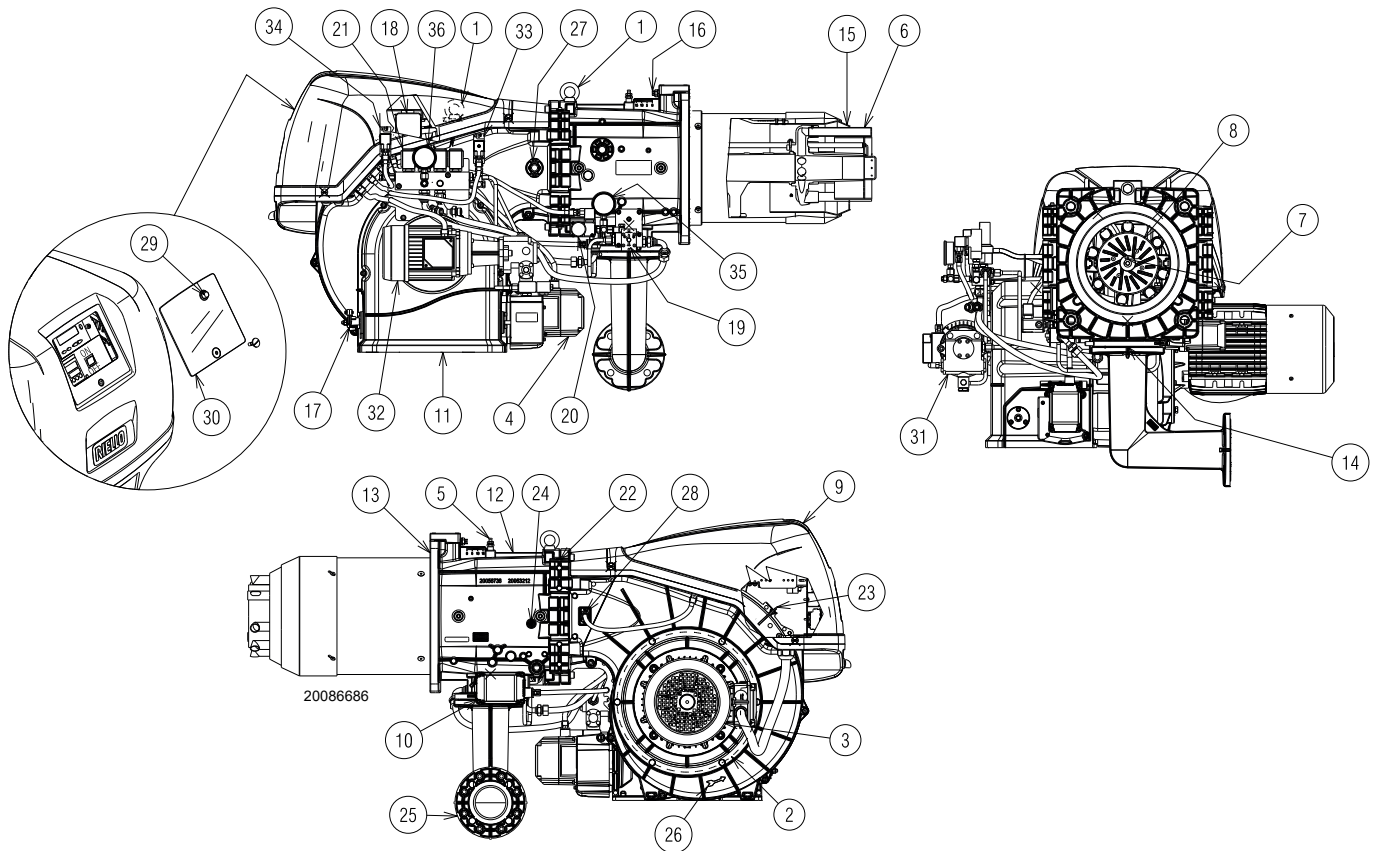

Fig. 4
- (1) Reference conditions: Ambient temperature 20°C - Gas temperature 15°C - Barometric pressure 1013 mbar - Altitude 0 m a.s.l.
- (2) Pressure at the test point of the pressure switch 5)(Fig. 4 on page 13) with zero pressure in the combustion chamber and at maximum burner output.
- (3) Sound pressure measured in manufacturer's combustion laboratory, with burner operating on test boiler and at maximum rated output. The sound power is measured with the "Free Field" method, as per EN 15036, and according to an accurate "Accuracy: Category 3", as described by EN ISO 3746".